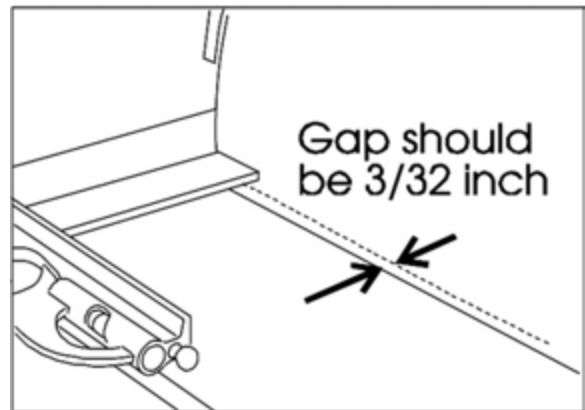

Figure 4: Table-to-disc gap measurement
4. Slide the disc in or out along its shaft until the table-to-disc gap is 3/32 inch (See Figure 4).